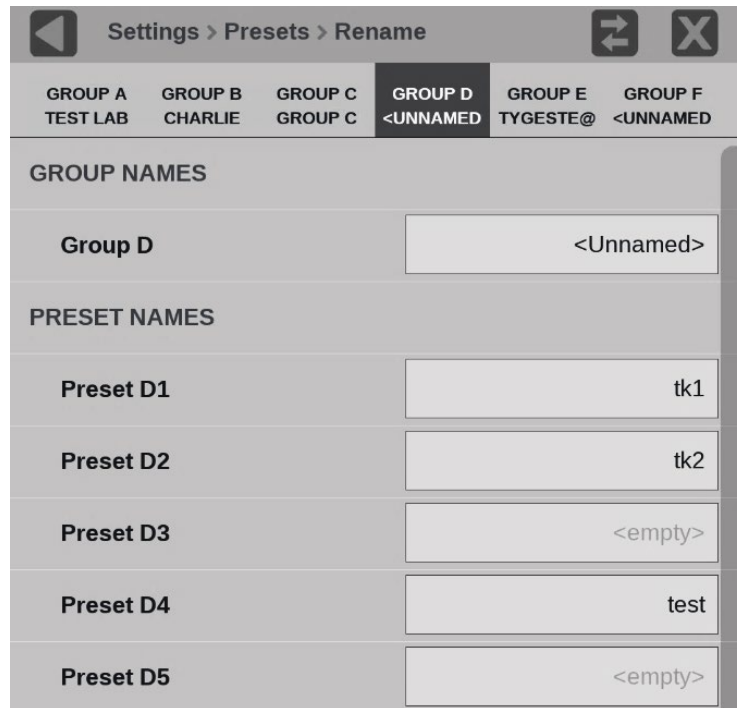

Figure 73: Presets Rename submenu with group D selected
The preset name changes from <empty> or a name to the entered name. The number is the preset position in the preset group. (See Figure 73.)
- Select **Rename** to open the Presets Rename submenu. (See Figure 73.)